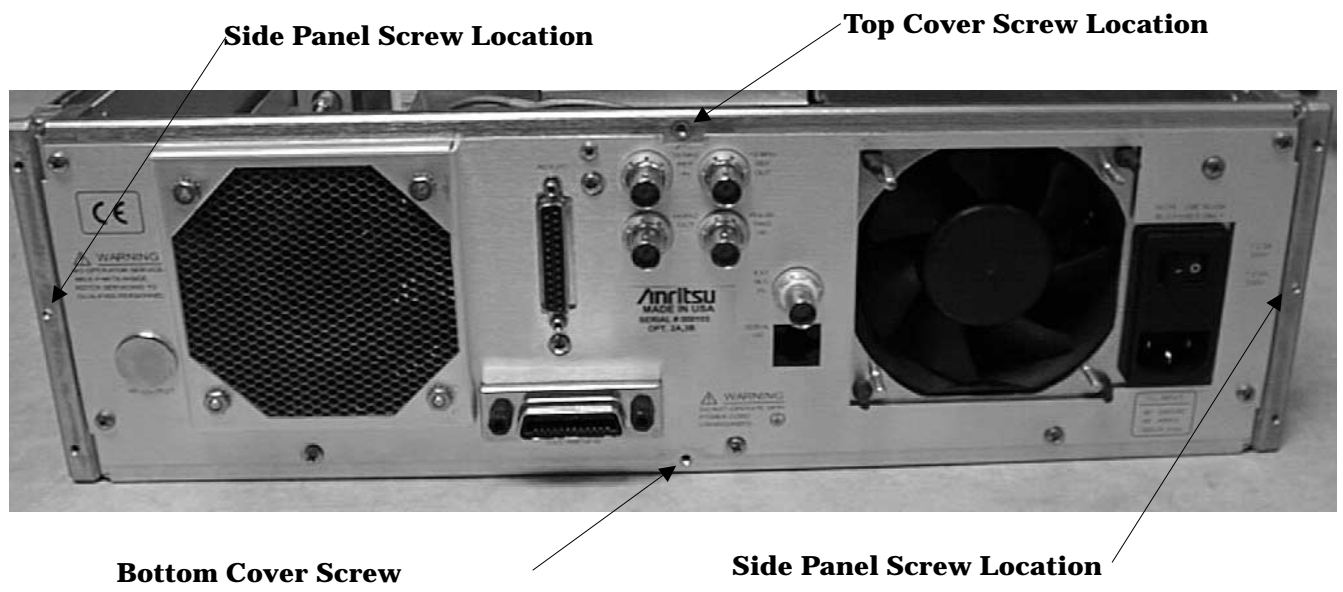

Figure 6-2. Rear Panel Retaining Screw Locations
Step 3. Remove the screw that fastens the top cover to the chassis (see Figure 6-2 on the following page).
- Step 6.** Remove the screw that fastens the bottom cover to the chassis. See Figure 6-2.
- Step 9.** Remove the screw that fastens the left side cover to the chassis. See Figure 6-2.
- Step 12.** Remove the screw that fastens the right side cover to the chassis. See Figure 6-2.